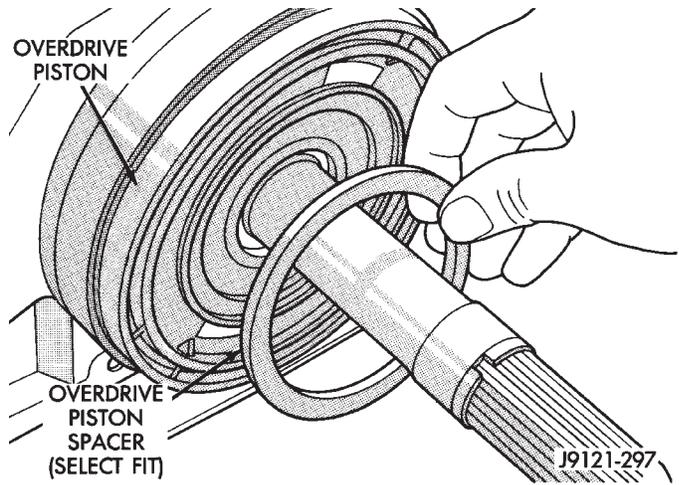

Fig. 210 Overdrive Piston Thrust Plate Removal/Installation
- (1) Remove overdrive piston thrust plate (Fig. 210). Retain thrust plate. It is a select fit part and may possibly be reused.